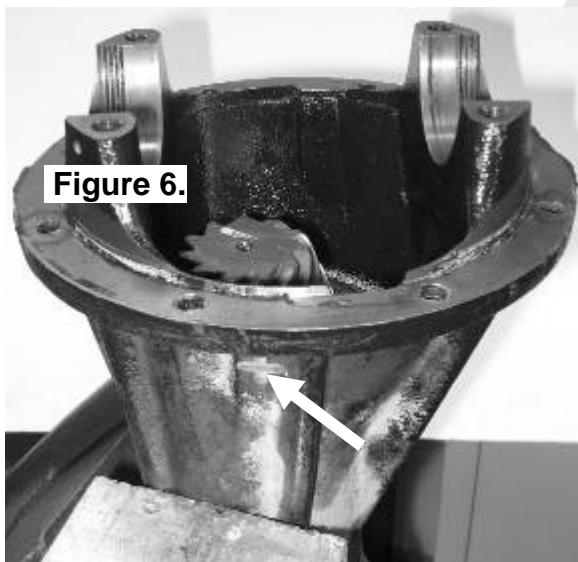

Figure 6.
- ☐ Mark a spot on the right hand side (opposite the ring gear) toward the top of the differential housing that is in an area well clear of the differential, the ring gear, and any other obstructions that could snag the seal housing tube. (Fig.6.)